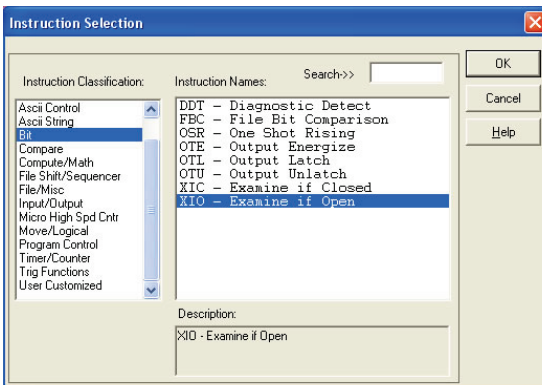

Figure 80: XIO Instruction Selection
- b) Select the “XIO” instruction from the “Bit” classification, then click OK. Refer to Figure 80.